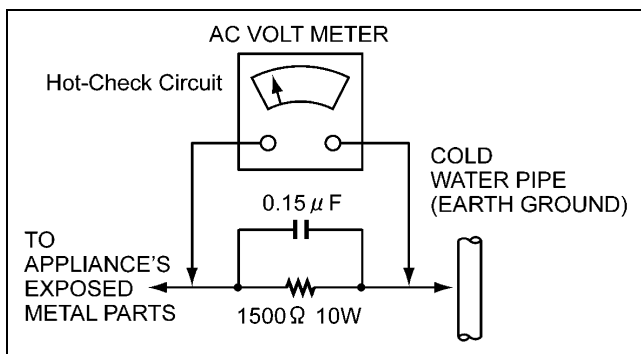

Figure1
LEAKAGE CURRENT HOT CHECK (See Figure 1)
2. Connect a 1.5KΩ, 10W resistor, in parallel with a 0.15μ F capacitor, between each exposed metallic part on the set and a good earth ground such as a water pipe, as shown in Figure1.